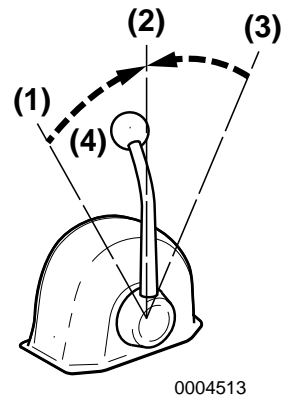

Figure 2
Use the throttle handle (**Figure 2, (4)**) to control acceleration and deceleration. Move the handle slowly.
2. **NOTICE:** NEVER shift the marine gear at high engine speed. During normal operation, the marine gear should only be shifted with the engine at idle. When moving the handle between FORWARD (**Figure 2, (1)**) and REVERSE (**Figure 2, (3)**), bring the clutch to NEUTRAL (**Figure 2, (2)**) and pause before slowly shifting to the desired position. Do not shift abruptly from FORWARD to REVERSE or vice versa.